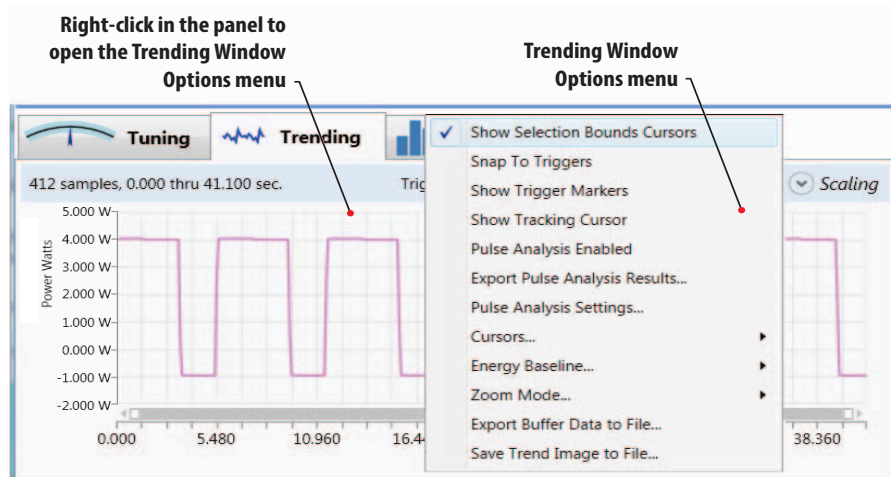

Figure 7-1. Trending Options
1. **[Trending view tab]** Right-click in the Graphics viewing panel to open the Trending Window Options menu. Refer to Figure 7-1.